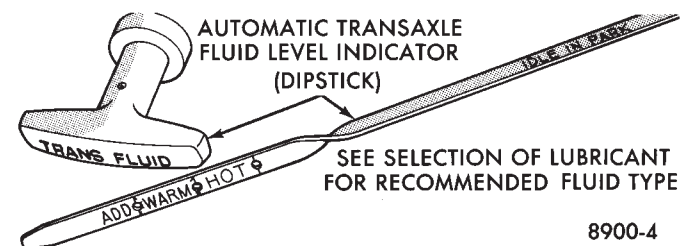

Fig. 4 Automatic Transaxle Dipstick—Typical
- (6) Remove dipstick, with handle above tip, take fluid level reading (Fig. 4). If the vehicle has been driven for at least 15 minutes before inspecting fluid level, transaxle can be considered hot and reading should be above the WARM mark. If vehicle has run